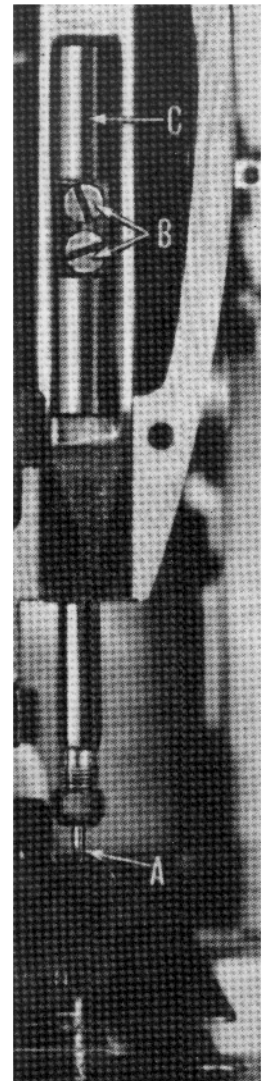

Fig. 7
The height of the needle (A, Fig. 7) is correct when the top of its eye is $\frac{1}{64}$ inch below the underside, of the looper, with the looper point flush with the left side of the needle and the needle is ascending on the left side. If adjustment is necessary, loosen screws (B) and move needle bar (C) up or down as required and retighten screws.